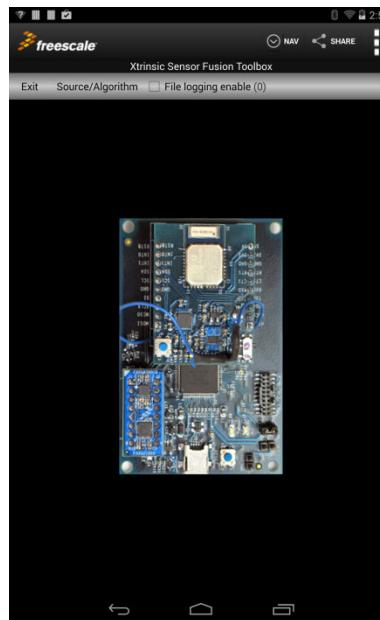

Figure 16. Sensor Fusion Toolbox
2. If not already done, download the **Sensor Fusion Toolbox** onto an Android 4.0 or higher device (tablets are desired). This app can be found by searching Google Play, at <http://play.google.com> for the term *sensor fusion*. Start the app on the Android device once it has been installed. Once the Sensor Fusion Toolbox is open, the software will display as shown in this example, see Figure 16.